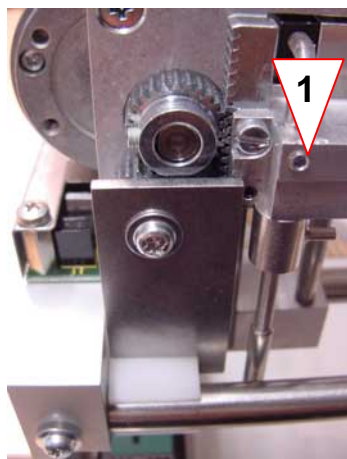

Fig. 4-16 Steel tube - allen screw
5. Use the 1.5 mm allen wrench to open the allen screw (see Fig. 4-16, 1).